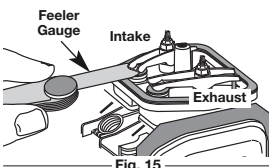

Fig. 15
7. Slide the feeler gauge between the rocker arm and the valve return spring. Measure the clearance between the valve stem and rocker arm (Fig. 15). Measure both the intake and exhaust valves.
The recommended clearance for both intake and exhaust is **.003 – .006 in. (.076 – 0.152 mm)**. Use a standard automotive .005 in. (0.127 mm) feeler gauge. The feeler gauge should slide between the rocker arm and valve stem with a slight amount of resistance, without binding. See Figures 15 and 16.